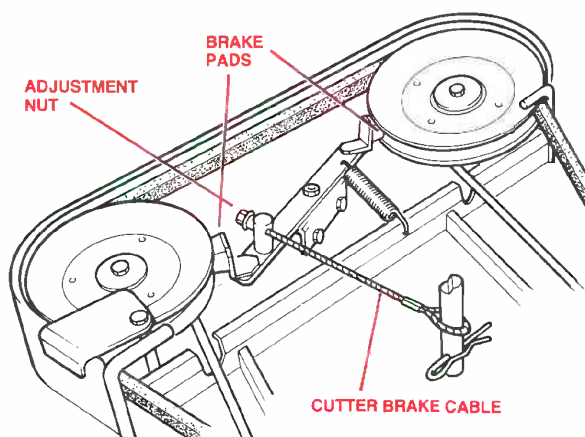

Figure 3. Cutter Brake Adjustment.
3. Find the brake arm with the brake pad attached along with its operating cable. (see figure 3).